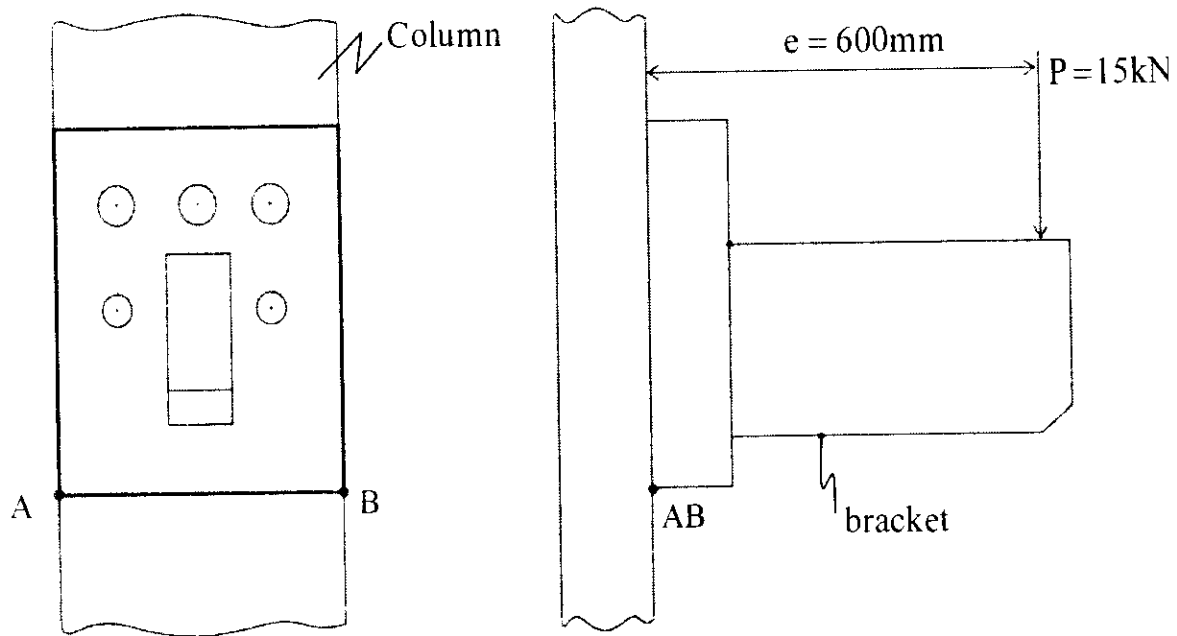

Figure 1
Q.5. A bracket is fixed to column by means of five bolts as shown in Figure 1 to carry a load of 15 kN. Calculated diameter of the bolts required if the allowable shear stress for bolt material is 60MPa. [16]